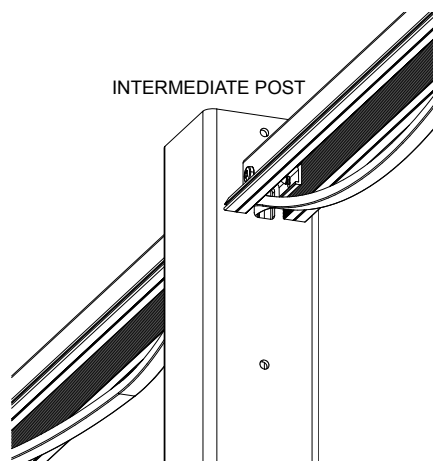

Figure 4.3
LED Light Strips may pass continuously through each Intermediate post in a straight run (level or stairs). You may also run Light Strips through a Newel Pass-through (NP) post to transition from level to stairs (see Figure 4.3).